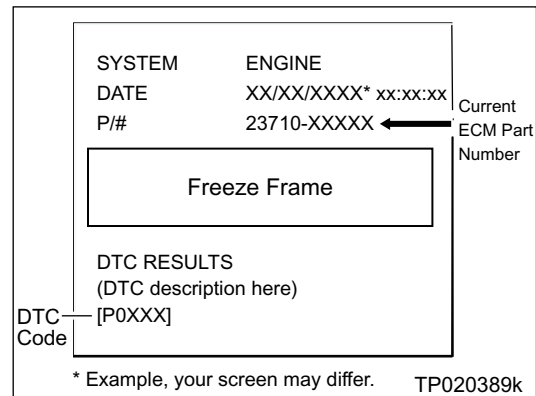

Figure 1
- Figure 1 is an example of the F.F. Data printout.
3. Check the ECM Part Number on the printout from Step 1 (Figure 1);